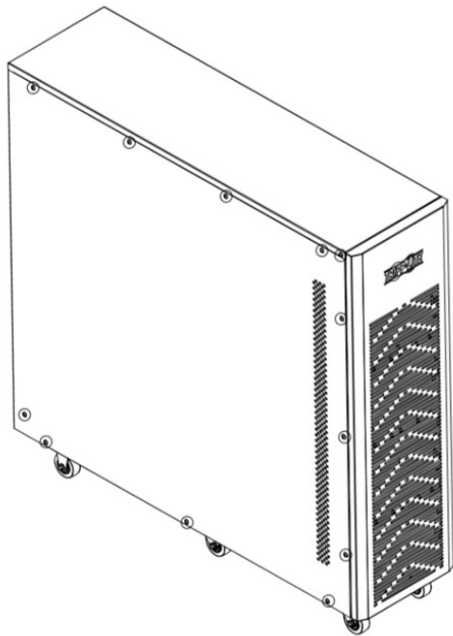

Figure 5-2A
1. Remove all circled screws (Figures 5-2A and 5-2B).